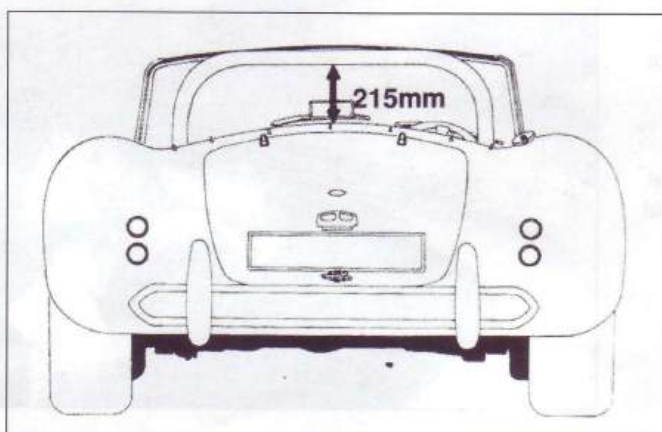

Fig.10d. Diagram showing roll-over bar height.
3. Adjust the height of the roll bar to give a distance of 215mm from the top of the rear scuttle moulding to the underside of the roll-over bar as shown in fig.10d.